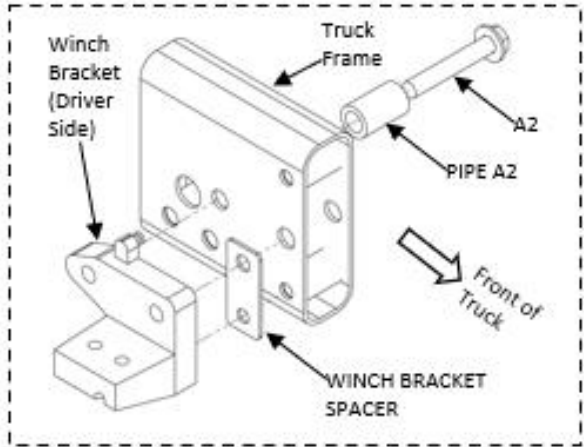

Figure 2a: Pipe A2 and Winch Bracket Spacer installation (driver side view)
1. For truck with power winch, put Pipe A2 into truck frame (where OEM fastener A2 is) and insert OEM fastener A2, see Figure 2a. Winch Bracket Spacer should be placed between winch bracket (driver/passenger side) and the truck frame as Figure 2a shown.